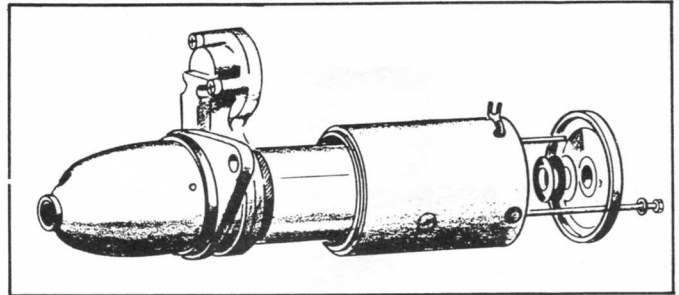

FIGURE 54. REMOVING THROUGH-BOLTS
2. After removing the thru bolts, the starting motor can be divided into three parts — the front bracket, housing and rear bracket. The spacing washers shown in Figure 54 are used for adjustment of the thrust gap of the armature shaft and are placed between the rear bracket and the commutator.